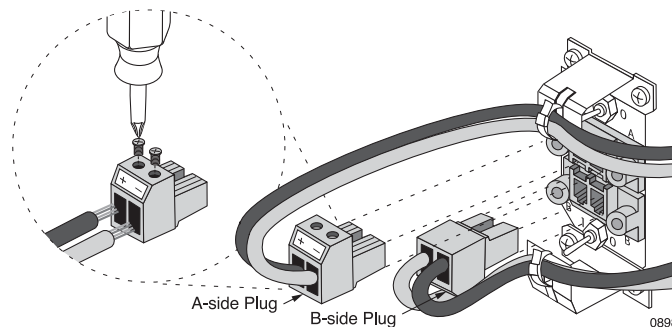

Figure 8 *Installing the DC Power Cables*
4. Insert the A-side and B-side plugs in the connectors on the rear panel of the chassis, so that they are oriented 180° with respect to each other, as shown in Figure 8. The connectors are polarized so that you cannot insert them incorrectly.
5. Secure the cables to the circuit-breaker shields as shown in Figure 8.